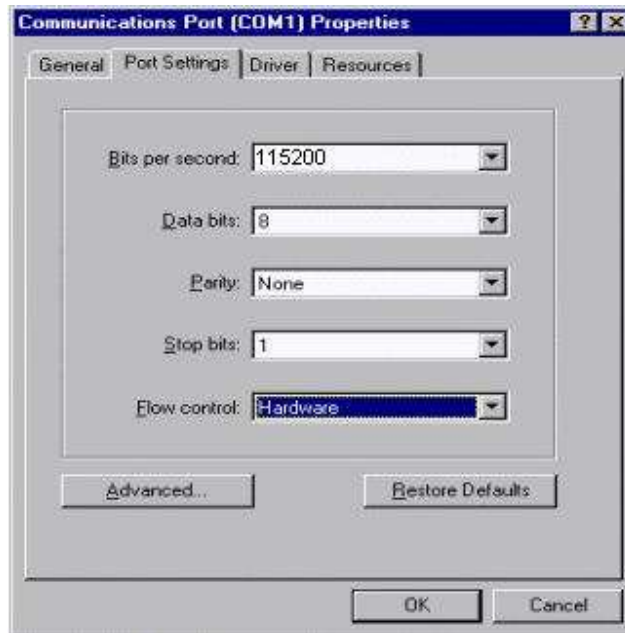

Figure 1
3. Double-click on the communications port you have the unit connected to and change the following under the Port Settings tab (see Figure 1):